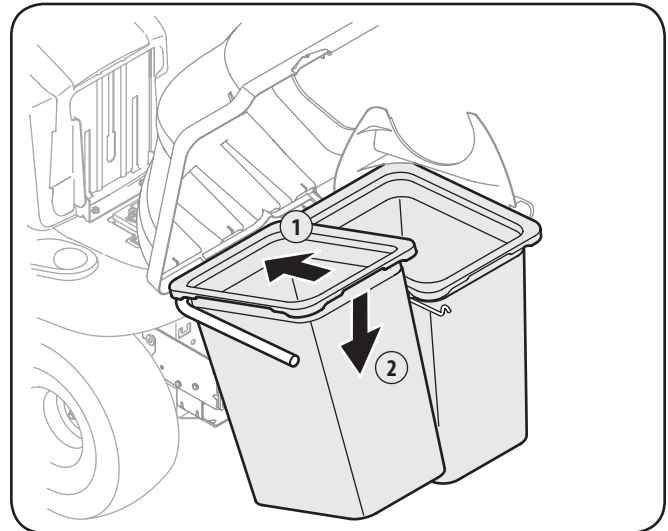

Figure 4-19
8. Install both grass bags onto the bag support assembly by inserting the front edge in first (1), as seen in Fig. 4-19, and setting the back edge down (2) until it fits into the assembly.